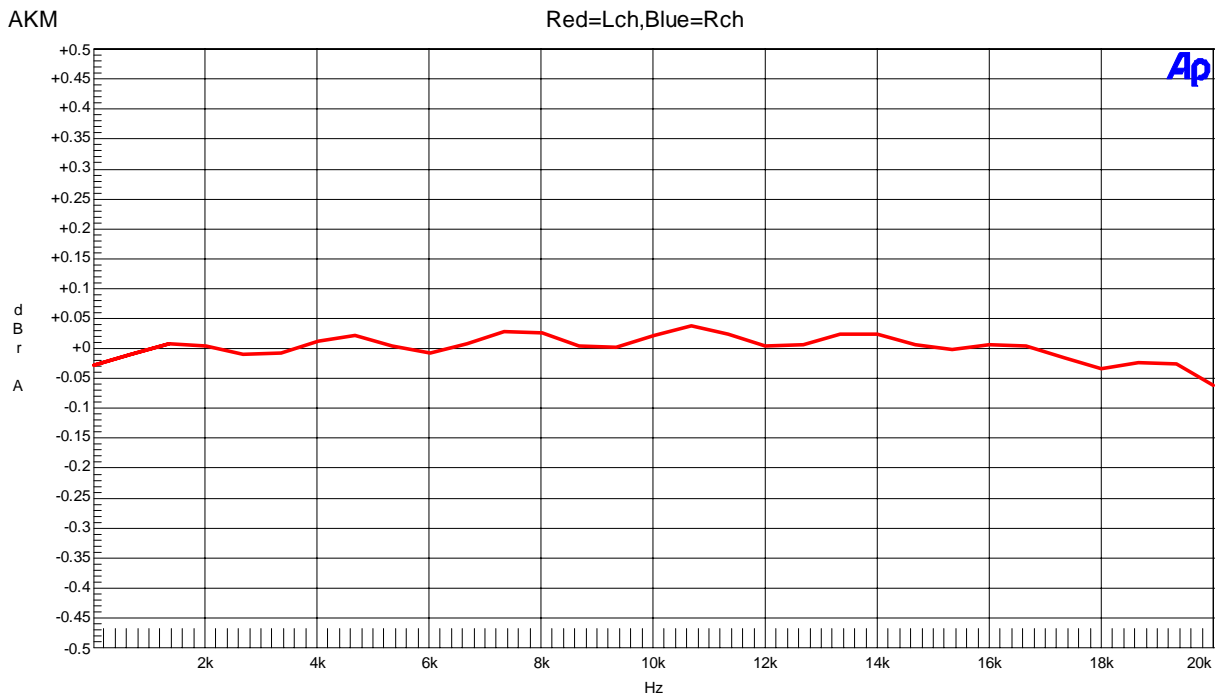

Figure 31. Frequency Response (Input Level=0dBFS)
- Figure 31. Cross-talk (Input Level=0dBFS)